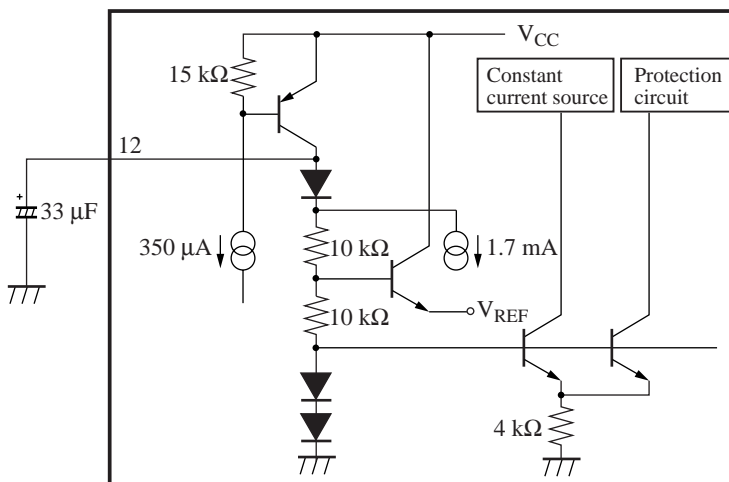

Figure 5
- 5) The internal circuit of ripple filter terminal is as shown in figure 5 and the charge current is approx. 3 mA to 10 mA.